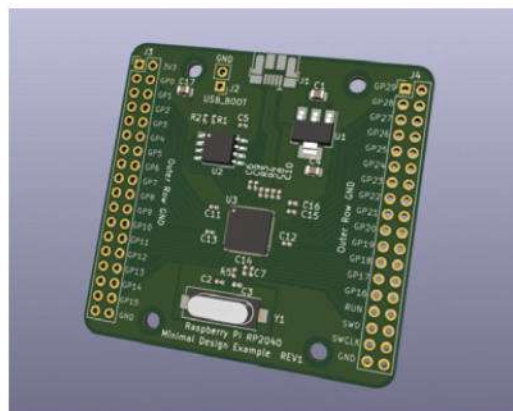

Figure 3 The Hardware design with RP2040 documentation also includes a KiCad example project
This document shows an example of a minimal RP2040-based board, a two-layer design, and then describes various aspects of the design and considerations. There is even a KiCad project file for the design. It's a great idea to download the project file and take a look around it (**Figure 3**). In this article, we are going to replicate this board design, but we will start from a blank project rather than use the one supplied.
Inside the potentiometer there is a resistive track with a slider that moves along it. As the slider moves towards terminal 1, the resistance between terminal 1 and terminal 2 decreases, and the resistance between terminal 2 and terminal 3 increases. A photo and schematic symbol are shown in **Figure 3** (overleaf).
► **Figure 3** Schematic diagram and photo of a potentiometer. This type has right-angle pins that can be inserted into a breadboard